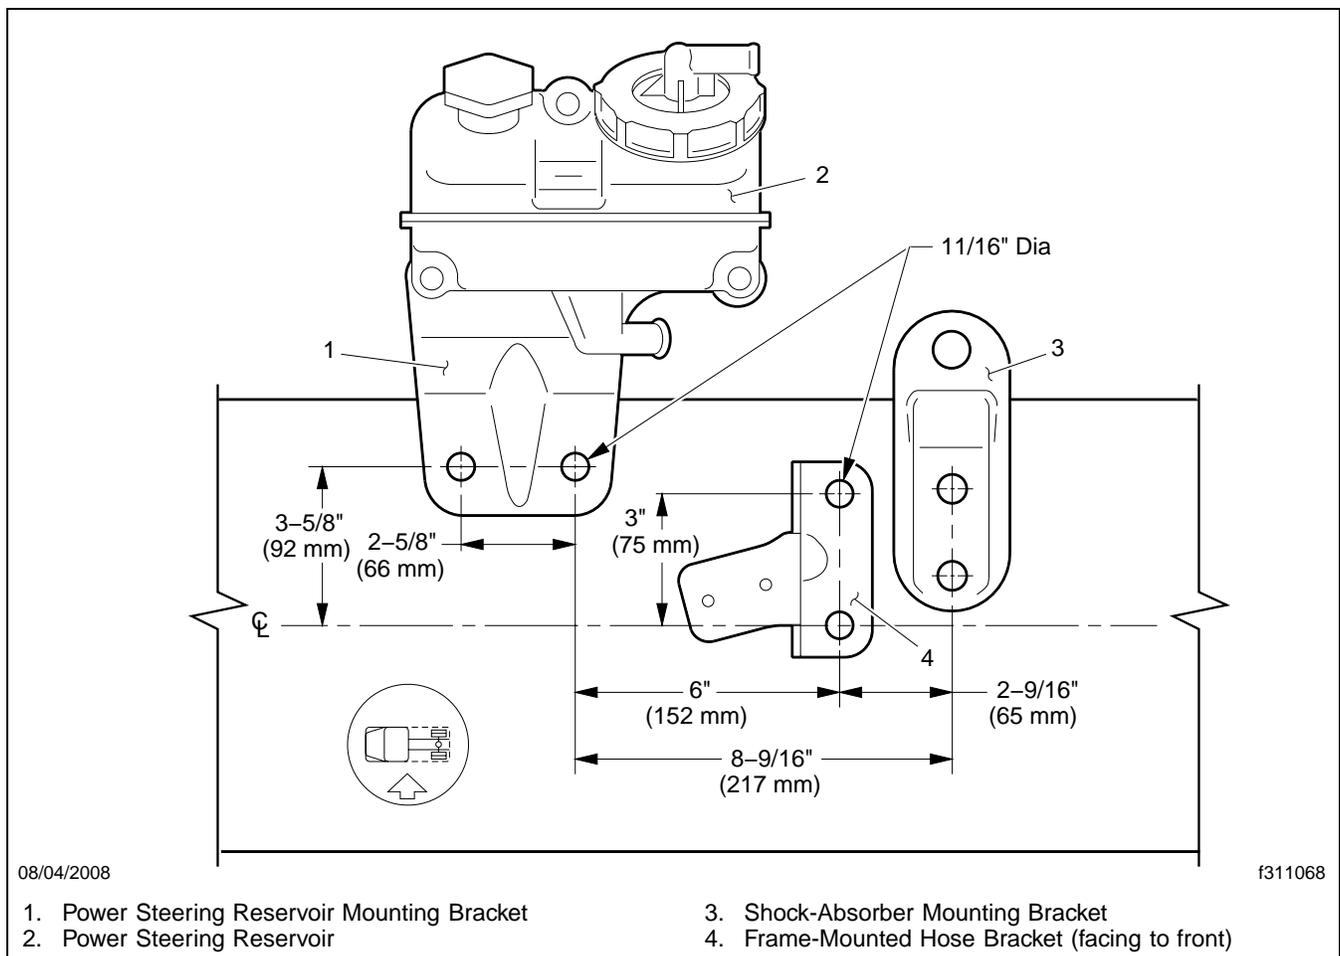

Fig. 1, Drilling and Mounting Locations
14. Mark the layout of the holes on the frame, using the drilling diagram. See **Fig. 1**.
29. Install the frame-mounted hose bracket, as shown in **Fig. 1**.